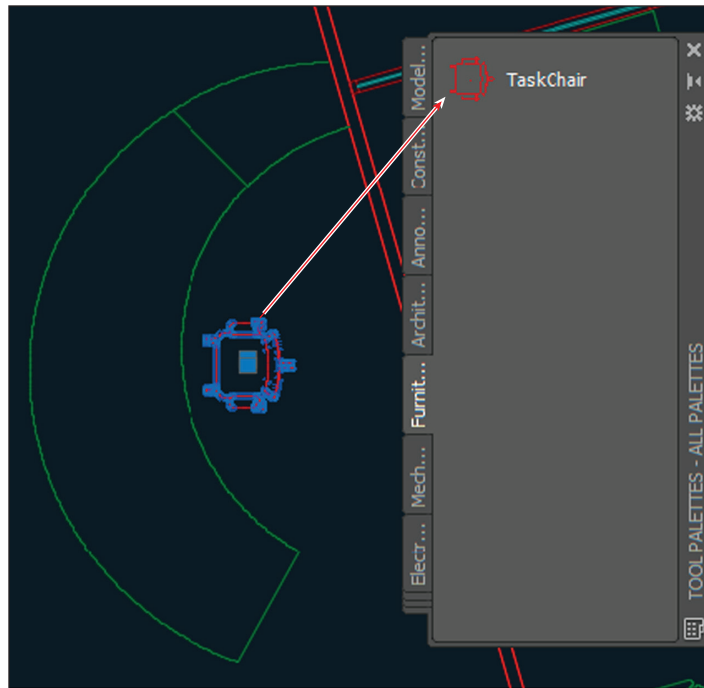

FIGURE 9.16 Creating a tool on a new palette by dragging a chair block onto it
3. Select the Receptionist's chair. Drag this chair (not using a grip) onto the Furniture palette. TaskChair appears with a preview icon (see Figure 9.16).